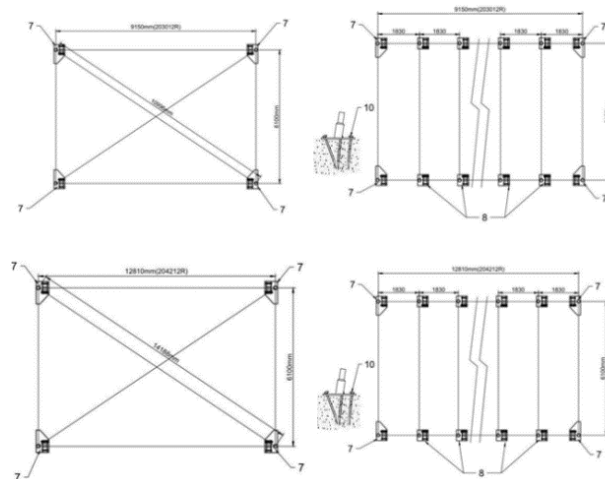

Figure 2
Refer to *Figure 2* to install the base plates. All measurements are from centre to centre of the tubes.
- 1) Arrange the 4 base plates for corners (component code 7) to form a rectangular foundation, as shown in *Figure 2*.
- 2) Arrange the 8/12 base plates for inner side walls (component code 8) at equidistant points, as shown in *Figure 2*.